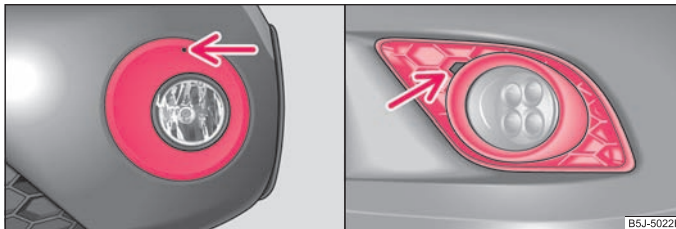

Fig. 172 Front bumper: Fabia Scout / Fabia RS
- Guide the wire clamp from the vehicle tool kit into the opening above the fog light ⇒ fig. 172 - left and remove the cover.
- Guide one finger into the opening next to the fog light ⇒ fig. 172 - right and remove the cover.